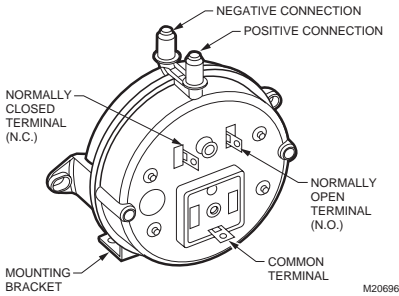

Fig. 10. IS-2/IS-3 Switch, vertically mounted.
To maintain the operating setpoint, the switch must be mounted with the diaphragm in a vertical position. See Fig. 10.
**NOTE:** To mount using the built-in feet (Fig. 10), use No. 8 or No. 10 screws with a maximum torque of 15 in. -lb.